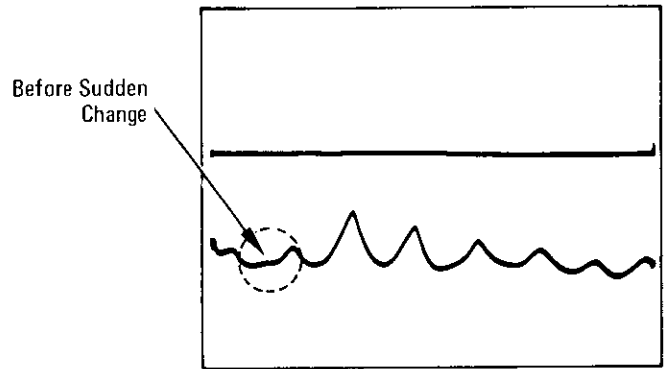

Figure 5-7. Pin Modulator Drive Voltage With FSA Counterclockwise
- q. Slowly adjust FSA control clockwise until a distinct sudden voltage level change occurs approximately between 2.2 GHz and 2.5 GHz on the CRT display (see Figures 5-7 and 5-8).